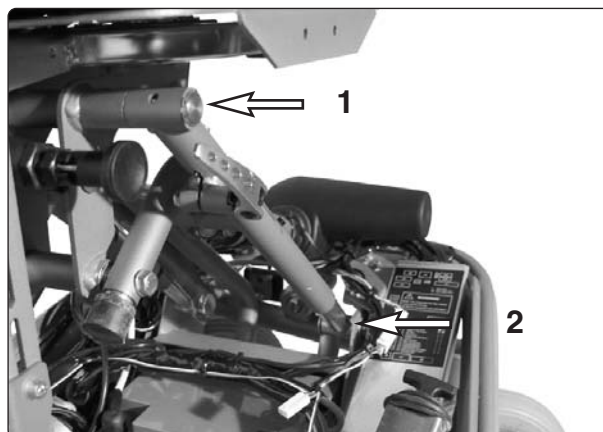

Fig. 39. Parallel tube with gas spring.
5. Remove the bolt to detach the rear end of the spring, see fig. 39:2 and 40:8. Lock the pivot arm (40:2) by inserting a drift from underneath, through the hole in the end of the parallel tube.
6. Remove the circlip from the front attachment point, see fig. 39:1 and 40:3.